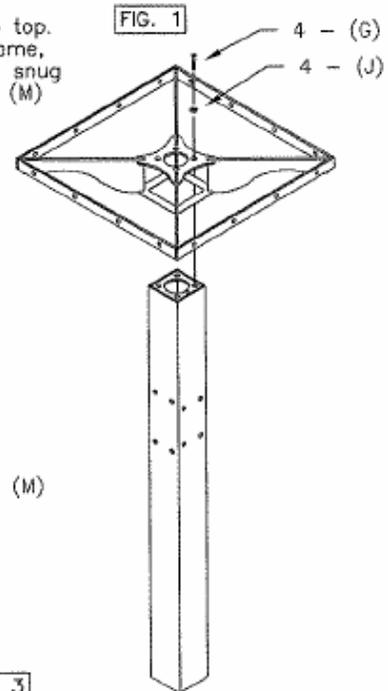

FIG. 2
Invert the top so it's upside down on a flat surface. Lower game insert (A5) into top. Attach the (E1/C) assembly to the inside of the top's center square mounting frame, see FIG. 2. Use eight (G) and (I) using two (F) per (G). Draw the fasteners to a snug fit with wrenches. Screw bolt covers (F1/F2), (F3/F4) or (F5) together using two (M) machine screws and slide over inground post, refer to FIG. 4. Secure to top.